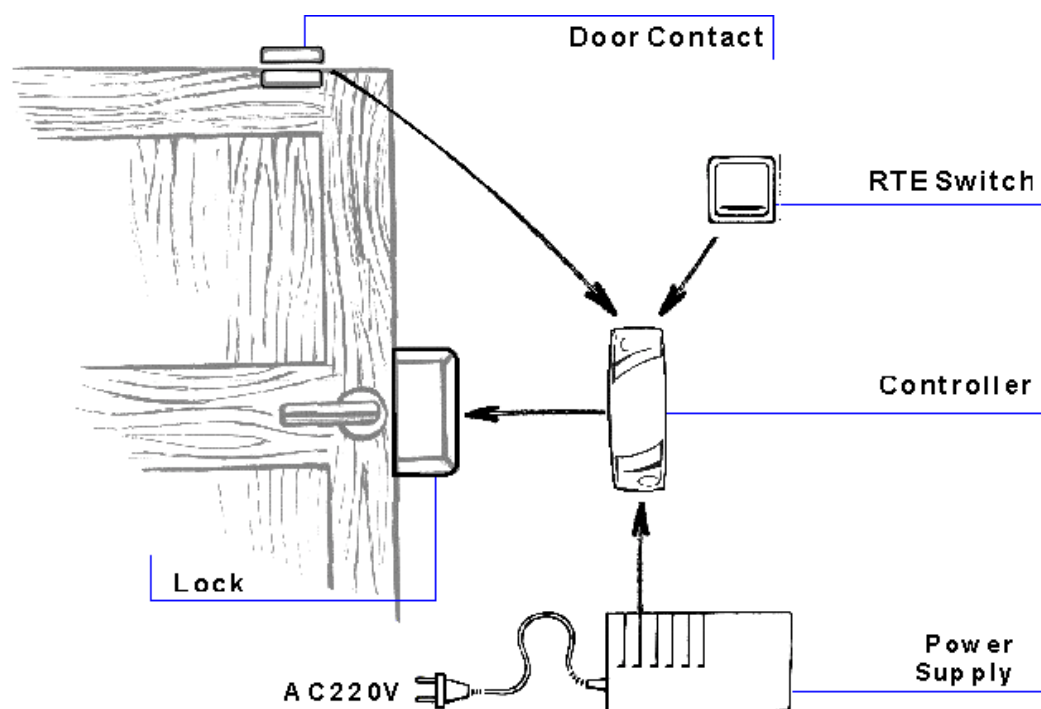

Figure 1. Access System Circuit
Controller based Access System circuit is shown in Figure 1. Some elements are not obligatory and can be omitted if they are not necessary. These are a Door Contact (DC) and Request to Exit Button (RTE).